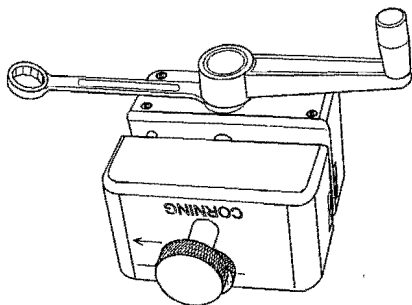

Figure 21
9.2 The handle must be removed from the tool before it is placed in its storage case. Use the 3/8-inch wrench provided with the tool to hold the tool's drive shaft while loosening the handle (Figure 21).